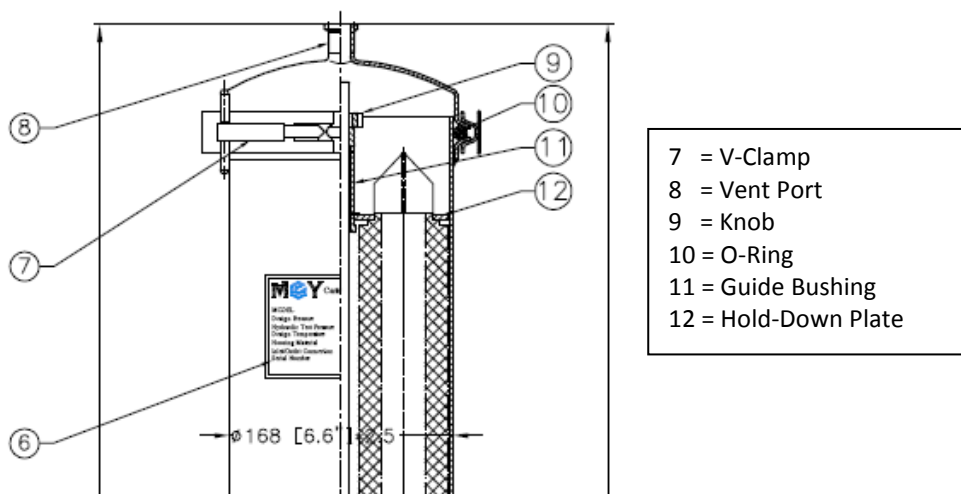

FIGURE 5-1
7. Remove the hold-down plate after turning the knob loose. The knob keeps the plate firmly against the filter cartridges. See Figure 5.1.
7. Remove the hold-down plate after turning the knob loose. The knob is for keeping the plate firmly against the filter cartridges. See Figure 5.1.